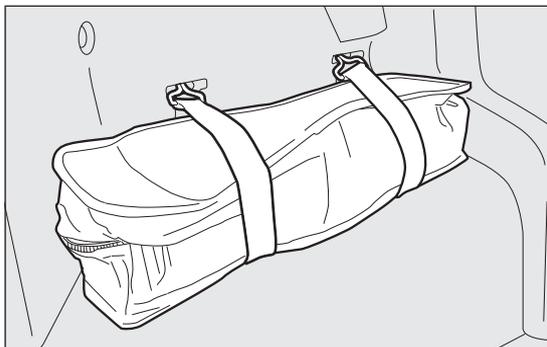

fig. 115
- open the tailgate, take the tool bag fig. 115 located on the left of the boot by releasing the elastic straps and take to the wheel to be replaced;